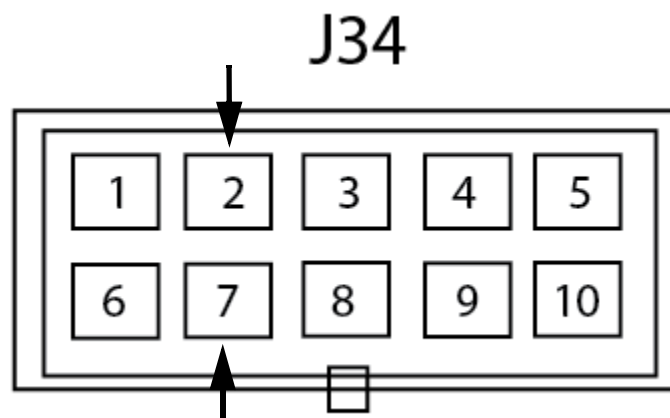

Figure 65 - Measuring the voltage on the motor/HC driver PCB (J34)
8. Using a multimeter, measure the voltage across pins 2 and 7 on the motor/HC driver PCB (Figure 65).